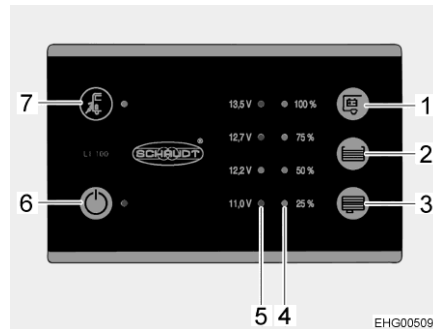

Fig. 96 Panel (LT 100)
The yellow LED at the mains connection symbol "⚡" (Fig. 96,7) is lit when the vehicle is connected to an external mains supply. In this case, the LED will also be lit when the panel is switched off.
The 12 V main switch (Fig. 96,6) switches the panel and the 12 V power supply of the living area on and off.
- Press switch "⏻" (Fig. 96,6): The 12 V living area power supply is switched on. The LED lights up green.
- Press switch "⏻" (Fig. 96,6) again: The 12 V living area power supply is switched off. The LED goes out.
The LED array (Fig. 96,5) displays the battery voltage of the living area battery as follows:
- Press the button " " (Fig. 96,1): The battery voltage of the living area battery is displayed.
The LED array (Fig. 96,4) displays the fill level of the fresh water tank or of the waste water tank.
Press the button "☰" (Fig. 96,2): The fill level of the fresh water tank is displayed by lit LEDs.
Press the button "☷" (Fig. 96,3): The fill level of the waste water tank is displayed by lit LEDs.